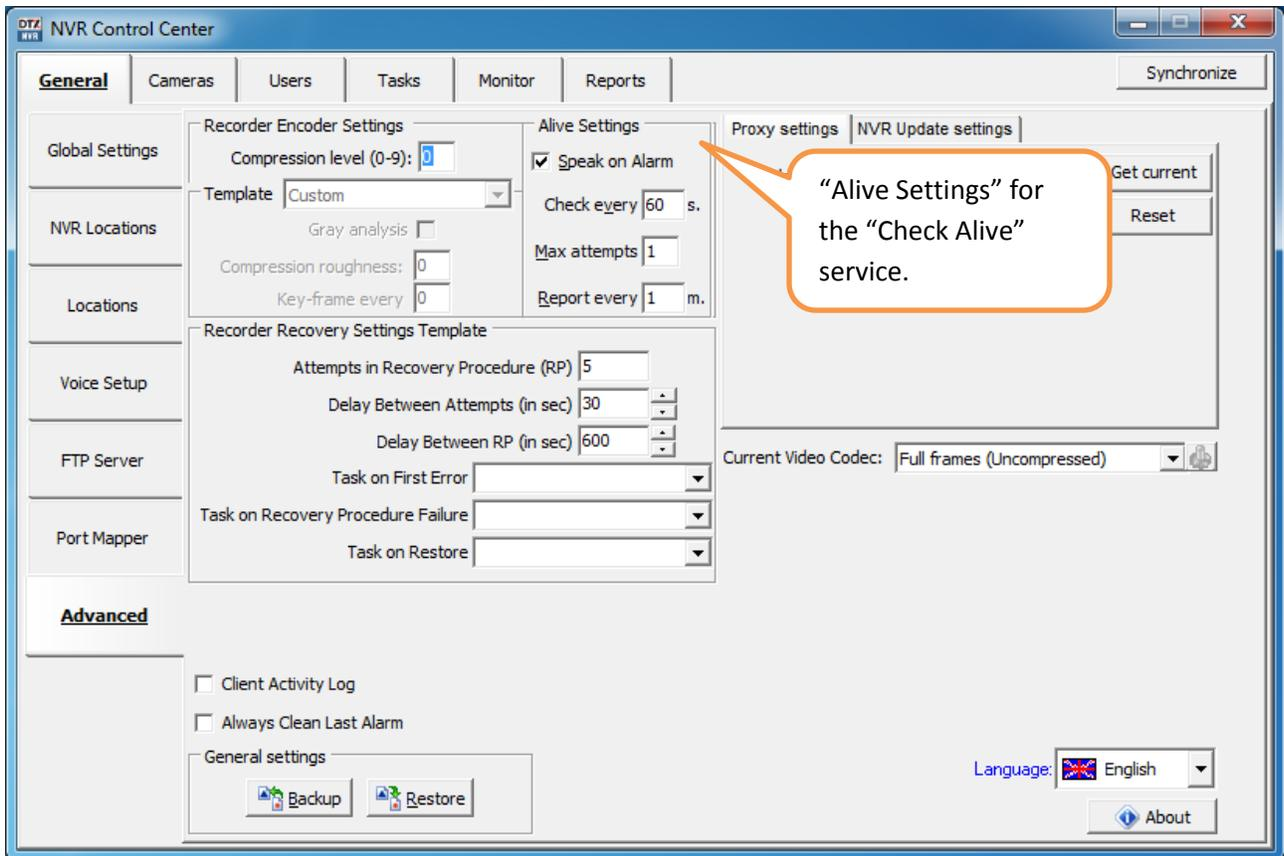

Fig 4. NVR Control Center — General — Advanced tab (“Alive Settings” for the “Check Alive” service).
- “Alive Settings” are added to the “Advanced” tab for the “Check Alive” service that monitors if camera is online and video inputs are active (see Fig 4). In the previous version the service settings couldn’t be changed.